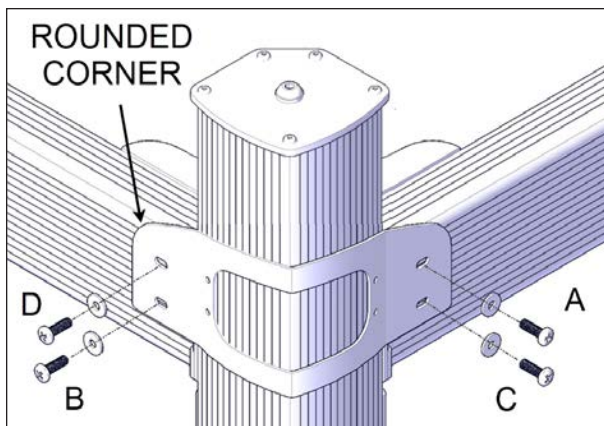

FIGURE 47: CORNER BRACKET INSTALLATION PATTERN
27. Install the first outer corner bracket as shown in Figure 47. Fasten the bracket to the cover
C-Channels with four painted Phillips M6 x 20 mm bolts and 1/4" painted washers. Install the first screw on position A and for the remaining screws, keep following the pattern shown in Figure 47.